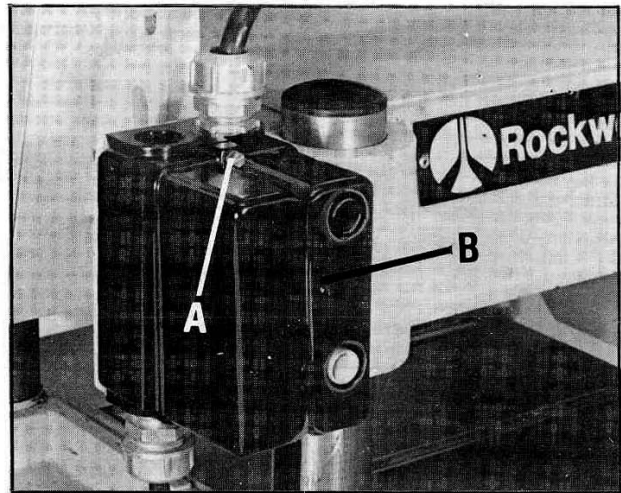

Fig. 29
2. Remove two screws, one of which is shown at (A) Fig. 29, and remove switch cover (B).